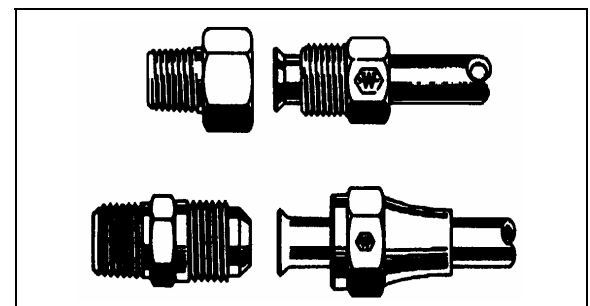

FIGURE 49: HOSE FITTINGS 12053
**45° Flare and Inverted Flare:** Tighten assembly with a wrench until a solid feeling is encountered. From that point, tighten 1/6 turn (Fig. 49).